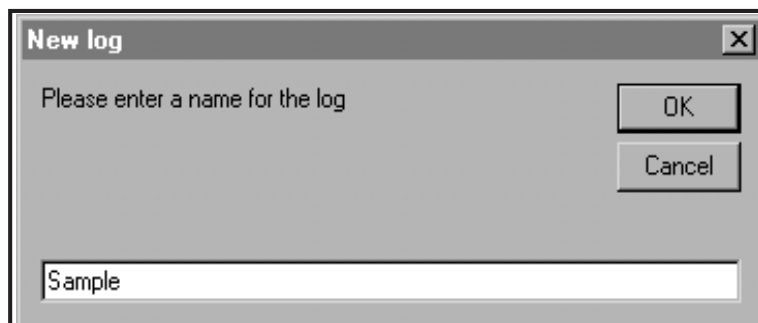

Figure 17: Log Name Dialog Box
5. Enter a log *file name* ("Sample" in this case) in the dialog box shown in Figure 17. Click on the [OK] option button.